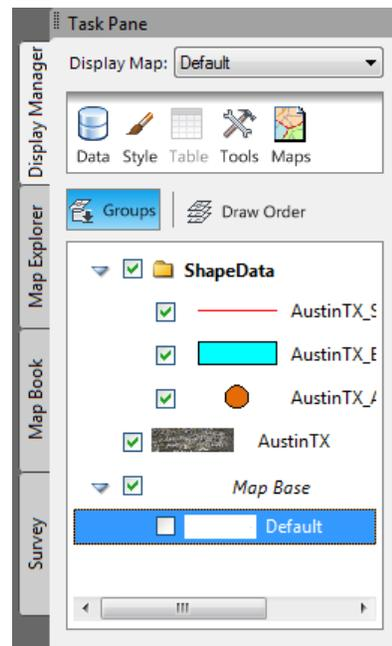

Figure 2-26 The Display Manager tab showing the added SHP file data
14. The **Display Manager** tab of the **Task Pane** displays the name of the layers of the added shape data, as shown in Figure 2-26.